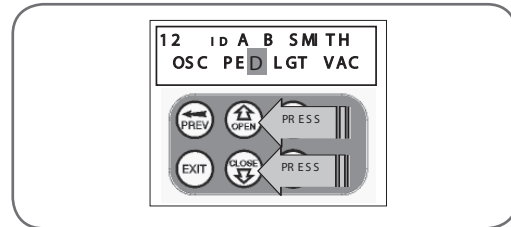

fig 25
2. Press UP or DOWN to change the displayed value (Fig. 25). The available functions are shown below (Fig. 25). Selecting OFF will prevent the opener responding to that button.
3. Press SET to save changes or press NEXT or PREV to move to next field. The example in (Fig. 25) shows that PED is assigned to the transmitter button 2. The transmitter in the example is transmitter number 12 which has the ID label AB Smith.